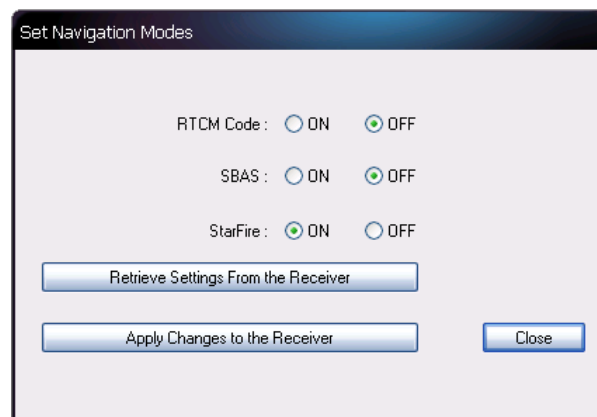

Figure 33: Set Navigation Modes/StarFire ON
69. Click *Navigation Modes* on the *Receiver Setup* menu to open the *Set Navigation Modes* dialog box (see Figure 33).
Refer to Figure 33 for the steps below: